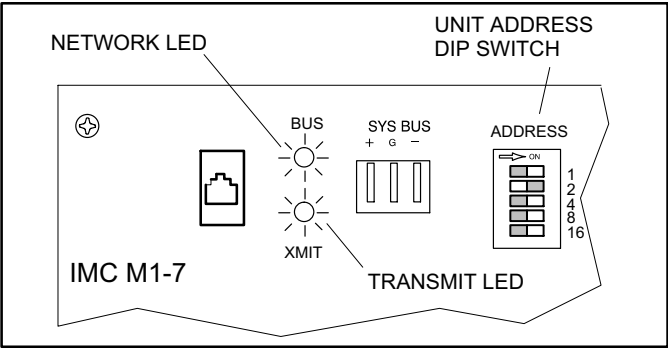

Figure 2. IMC LEDS
2. Set the BACnet device I.D. (and MAC address) with the unit address DIP switch on the IMC main board (M1-7). See figure 2. Each IMC on the BACnet network must have a different address between 1 and 31. Do not use 0 for addressing.